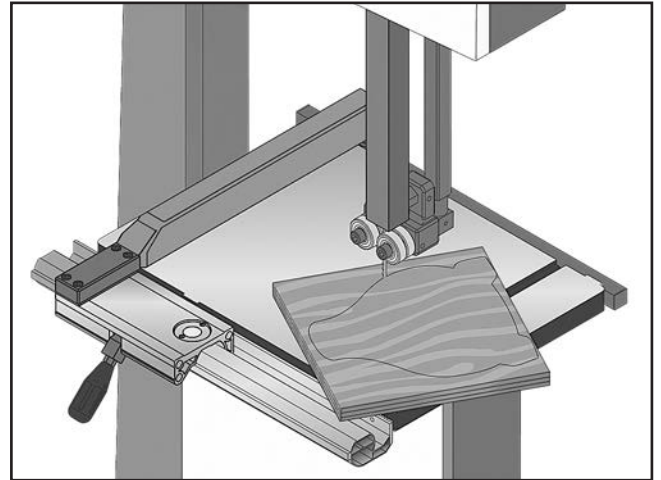

Figure 55. Example of a stacked cut setup.
5. Cut stack of pieces as though you were cutting a single piece. Follow your layout line with blade kerf on the waste side of your line (see **Figure 55** for an example of a stacked cut setup).